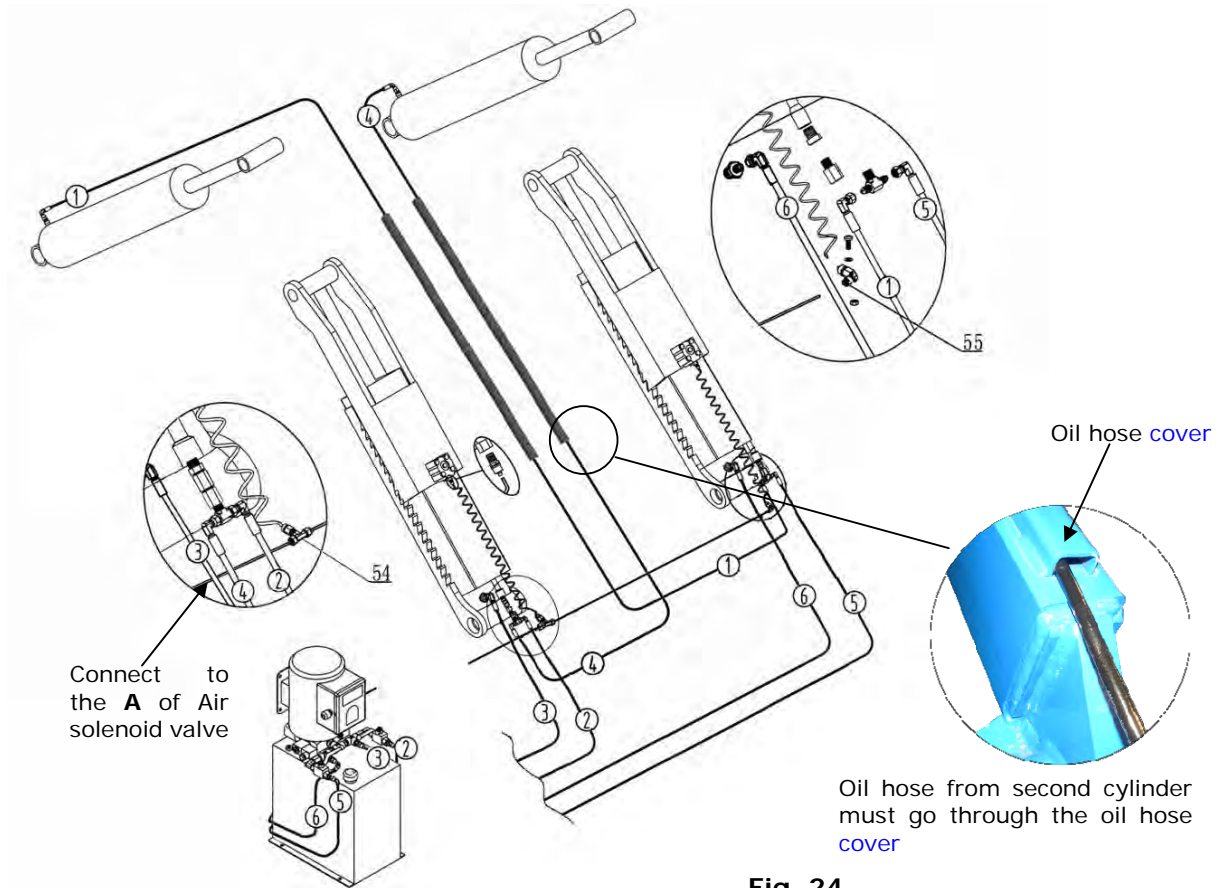

Fig. 24
2.2 When Control cabinet is installed in the right of approach side. (See Fig. 24).